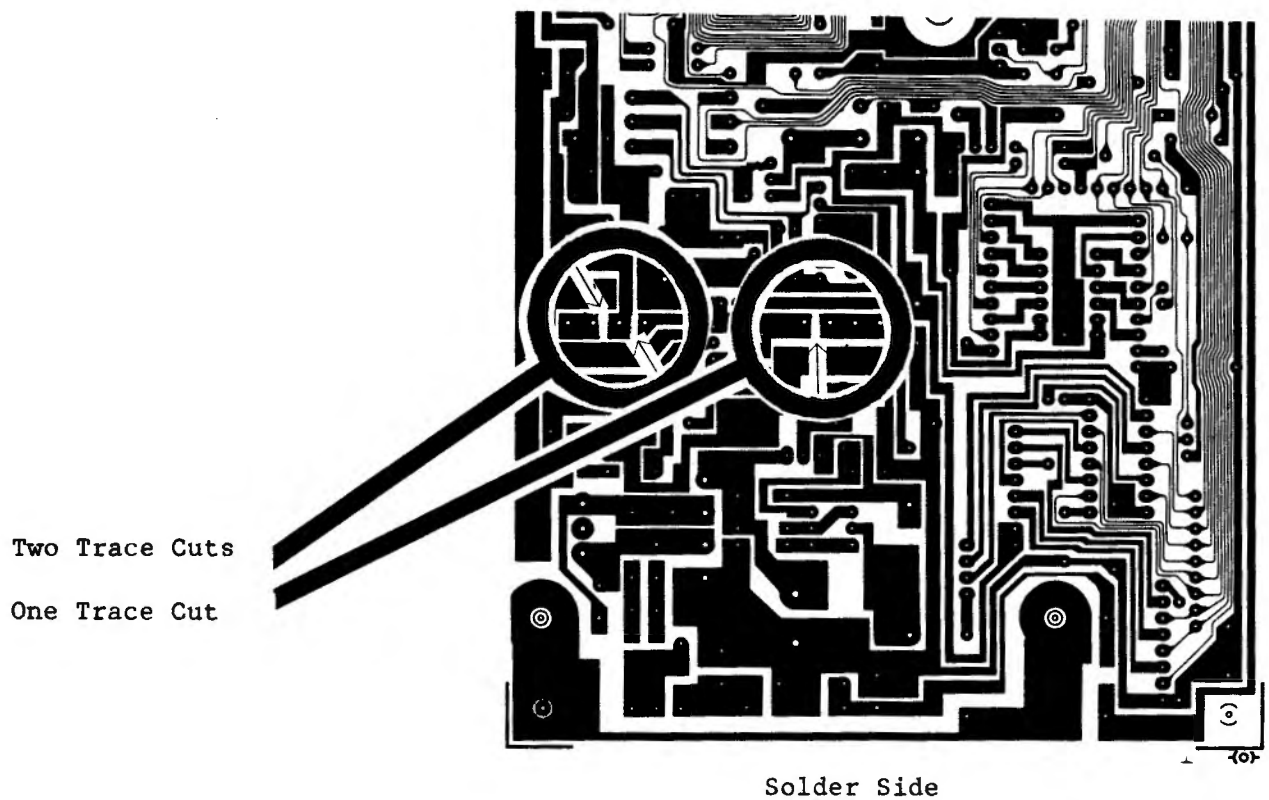

Figure 2
- 3.) Three trace cuts will need to be made on the solder side of the logic board. Two of the cuts are on one of the solder pads for L1 and the final cut is on one solder pad for L2. Reference figure 2 to see where these cuts are made.